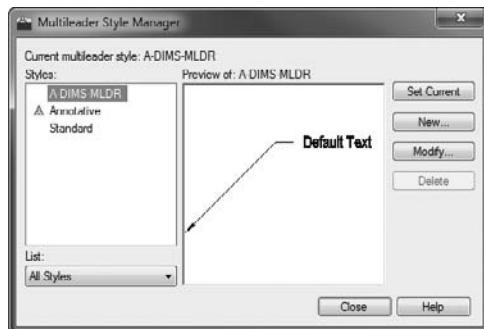

FIGURE 12.47 The A-DIMS-MLDR multileader style shown in the Multileader Style Manager
11. In the Multileader Style Manager, the A-DIMS-MLDR Leader style appears in the Styles list box (see Figure 12.47). Select it, click Set Current, and then click the Close button.